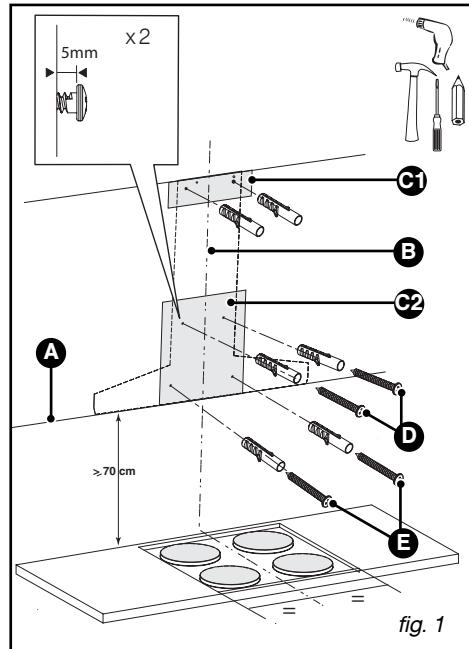

fig. 1
- Draw a horizontal line 70 cm minimum from the cook top (fig. 1).
- Draw a vertical line (B/fig. 1) on the wall that is centred over the cook top and that extends from the horizontal line drawn in the previous step (A) to the ceiling.
- Cut the drilling template by following the dotted lines to obtain two parts, C1 and C2 (fig. 1).
- Place the C2 template (fig. 1) on the wall, superimposing the line that represents the hood's axis over vertical line B (fig. 1) drawn in a previous step.
- Place the C1 template (fig. 1) against the wall flush with the ceiling.
- Screw in the top two screws for the hood (D/fig. 1), leaving 5 mm sticking out from the wall.
- Using the two screws (fig. 1), attach the metal chimney bracket against the wall, flush with the ceiling for support.